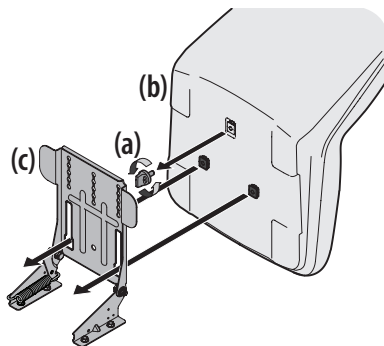

Figure 3
2. Remove the seat adjustment knob or 9/16" bolt (a) from the bottom of the seat (b). See Figure 3.
3. Align the seat (b) over the seat pivot bracket (c) as shown in Figure 3 and fit the seat (b) onto the seat pivot bracket (c) inserting the two tabs on the seat (b) bottom into the wide opening of the slots on the seat pivot bracket (c).